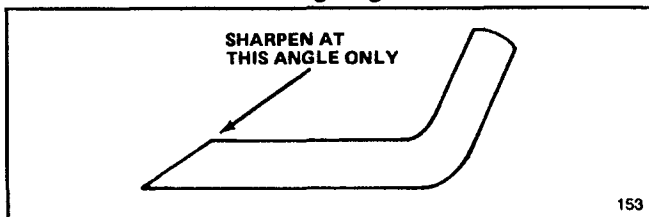

Figure 28
9. SHARPENING BLADE—Using a file, sharpen top side of blade (side facing top of mower housing) and maintain original cutting angle (Fig. 28). The blade remains balanced if the same amount of material is removed from both cutting edges.